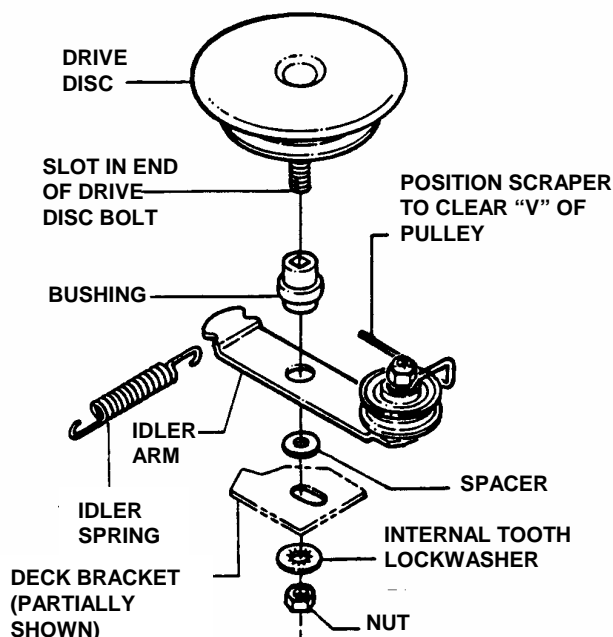

FIGURE 4.17
5. Hold the slotted end of the drive disc bolt with a screwdriver and remove the nut and internal tooth lock washer. See Figure 4.17.
7. Loop one end of new belt over engine pulley and insert the other end through slot in deck. See Figure 4.17.